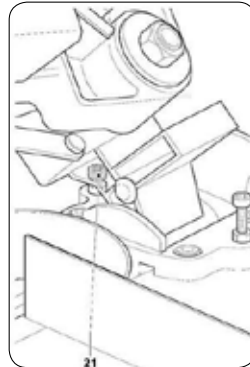

FIGURE 8.4
4. Adjusting the bevel angle 45° - Figure 8.4
- Loosen the lock knob (6) and turn the head to the utter bevel angle.
- Check the bevel angle using the scale (7). If the angle does not measure 45° adjust as follows:
- Loosen the locknut on the adjusting screw and screw the adjusting screw in or out to achieve a 45° angle. Retighten the locknut. Figure 8.4.